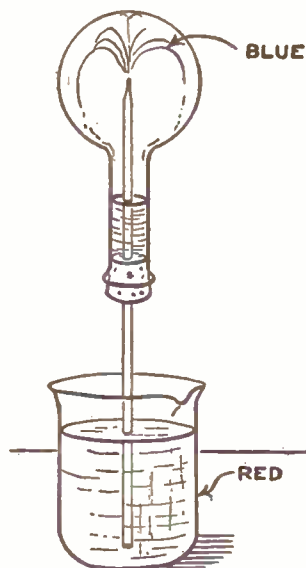

Fig. 2—The magic ammonia fountain
A variation of this experiment provides a spectacular trick. Replace test tube (C) by a flask. When it is full fit a cork carrying a glass tube drawn out to a jet at one end (Fig. 2) and dip the wider end of the tube in a beaker of water which has been coloured with red litmus. This time the water rushes up the tube and emerges in the flask as a blue fountain. The change from red to blue is striking. This change, of course, is due to ammonia being an alkaline substance, litmus always being blue in the presence of an alkali if it is soluble in water.